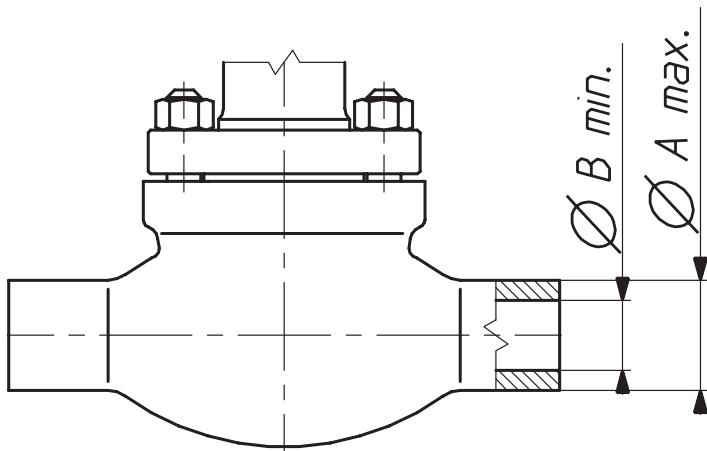
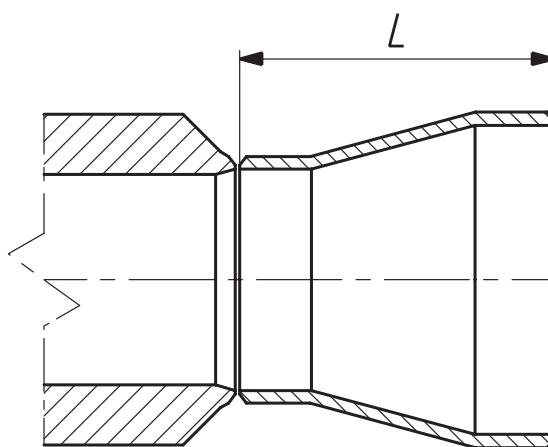

Fig. 6. Dimension of butt welding ends executed as cast
Fig. 7. Reduction stub
•) - execution with reduction stubs as per Fig. 7.
It is allowed to execute connections for other dimensions of pipes. Should pipe dimensions fall within the range ØB min / ØA max (Fig. 6, Table 20), connection can be executed as cast. Otherwise reduction stub is to be welded to body end, which shall result in extension of the housing by L or 2L size (Fig. 7, Table 20). Other connection dimensions are allowed upon consulting with manufacturer.